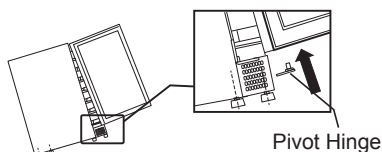

Figure 5
6. Insert the pivot plate into the bottom hinge hole of the door. (See Figure 5.)